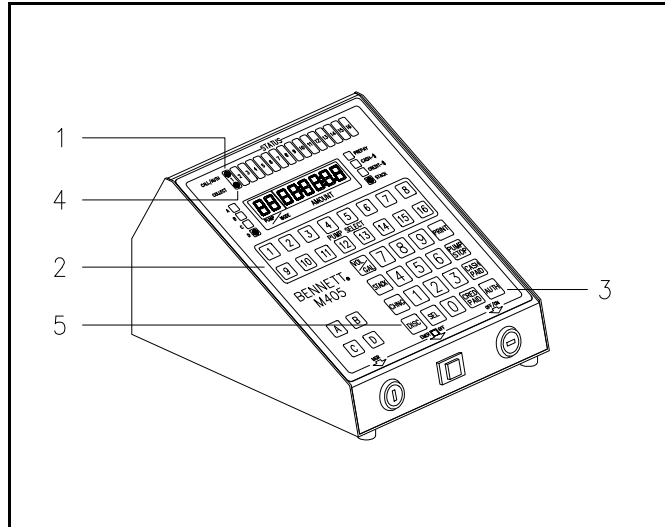

Figure 29
When the customer picks up the hose and turns on the handle, the call light (Ref. #1, Figure 29) flashes above the fueling position number and the audio beep (if set) sounds. See MODES 30 and 31 for programming beeper settings, page 26.
- Press the Pump Select **NUMBER** (Ref. #2, Figure 29).
- Press the **AUTH** button (Ref #3, Figure 29).
When the customer turns the handle off and returns the nozzle to the holder, the collect light (Ref. #4, Figure 29) flashes below the fueling position number and the audio beep sounds. The sale is waiting to be finalized.
**NOTE:** To toggle between a cash price and credit price before completing the sale, press the **DISC** (Ref #5, Figure 29) button.